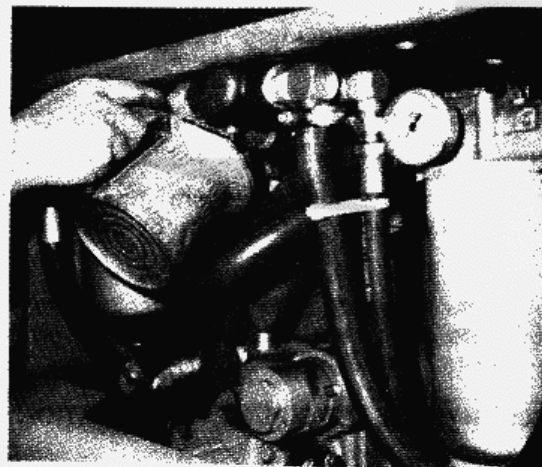

FIGURE 7-103.
- e. Loosen the charge pump line, coming from the filter/reservoir (see figure 7-103).
- f. Fill the reservoir and hoses with specified oil (see Section 2). Install and tighten the hoses (see figure 7-103).